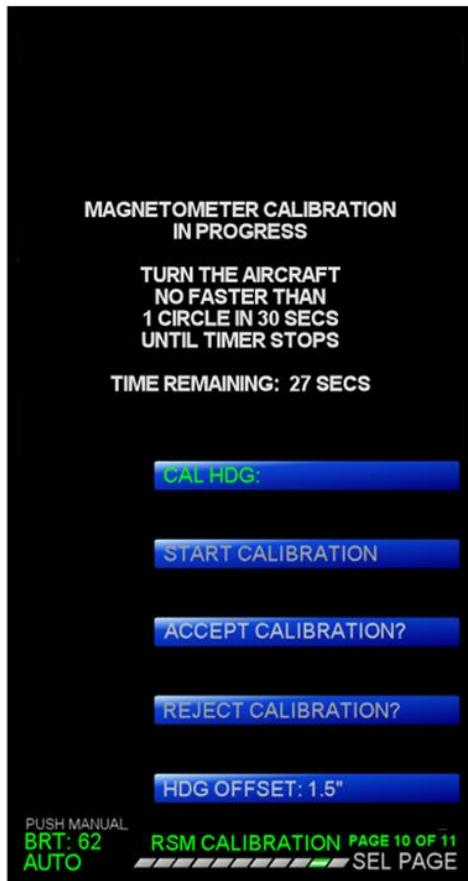

Figure 10-11: RSM Calibration Page
- With engines running, all electrical equipment operating, and the aircraft stationary the RSM CAL page will be entered and Start Calibration will be initiated (see Figure 10-11).